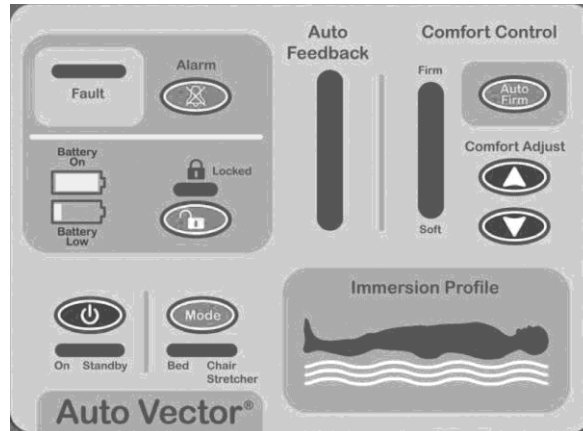

Figure 1: Dolphin Control Unit User Interface
- Easy to read graphics for intuitive set up and therapy control (Figure 1).